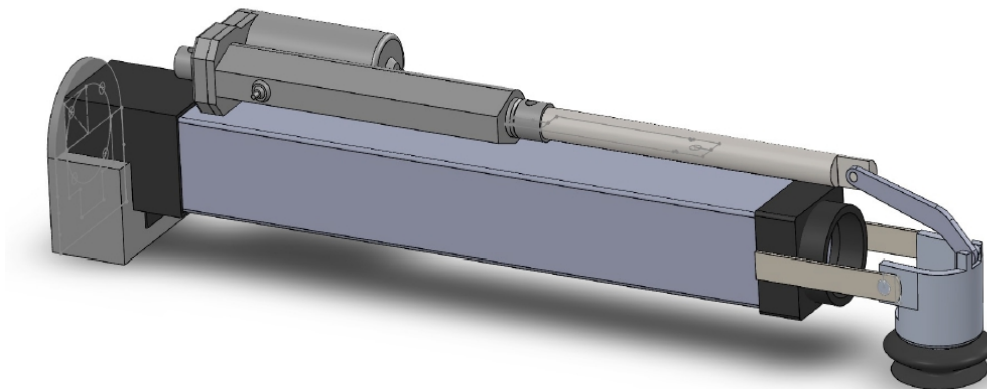

Figure 1: Draft end effector in the 90 degree bend position.
The main influence I've chosen for the gripper design is the winning team from last year's challenge, Delft. Delft placed their suction head on a pivot, and then used a linear actuator in conjunction with a serial linkage to cause the head to pivot from an axial position to the end effector direction into a 90 degree bend (1). I am attempting to simplify Delft's design however, as we are not incorporating the additional two-finger gripper they had into our system, so I chose instead to put the actuator on the top of our end effector as to minimize clearance issues on the sides and attempt to create a symmetric profile. I am also looking to take a suggestion from last year's team into consideration, which is to have the end effector be co-axial with the robot wrist in order to simplify planning computation. To that end I am playing with a slotted adapter design, in which a mounting plate will bolt to the robot wrist and the end effector will slide into the mount and then be bolted to it to maintain its position. Solidworks mockups are shown in Figures 1 and 2:
Figures 1 and 2 feature a linear actuator that was found on the McMaster-Carr website, however since that time a better replacement has been found to be available in the lab, specifically the Firgelli L16-140. The Firgelli offers a slimmer profile while still meeting our force requirements in order to push and pull the suction head of the gripper.